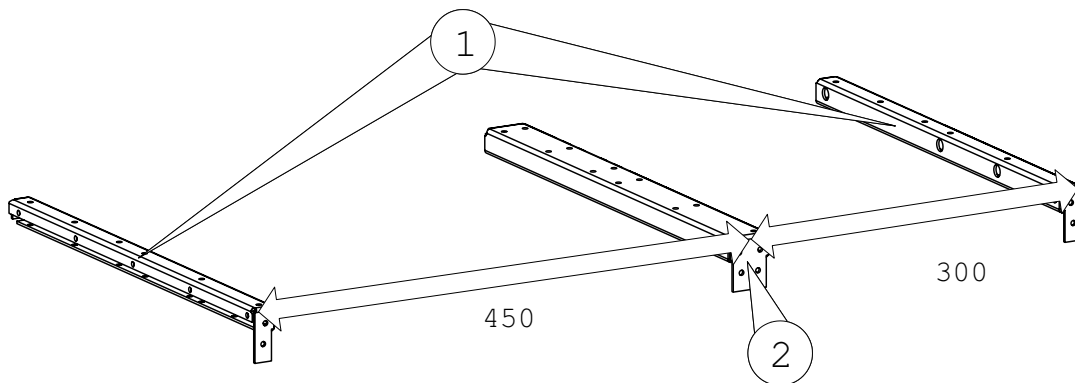

Fig. 2.9. Arranging the end and intermediate profiles according to the field order.
There are two ways to assemble the roof. We recommend that you arrange the end (1) and intermediate profiles (2) of the roof on an assembly table according to the field order, Fig. 2.9. Then you fasten either the back or middle plate depending on the structure of the cell centre.